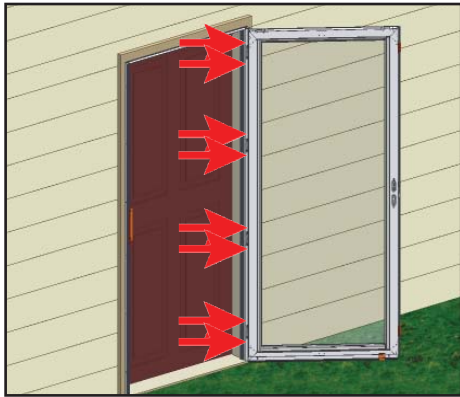

Figure 14
1. Fasten the hinge rail to the door jamb using eight #8 x 1 screws (Figure 14). Do not overtighten the screws.